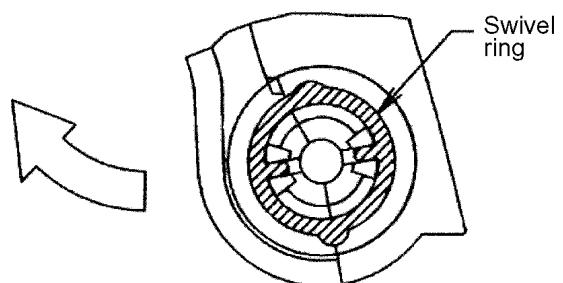

Figure 11
2. Remove swivel ring and remove hook of back housing From front housing. (See Figure 11)